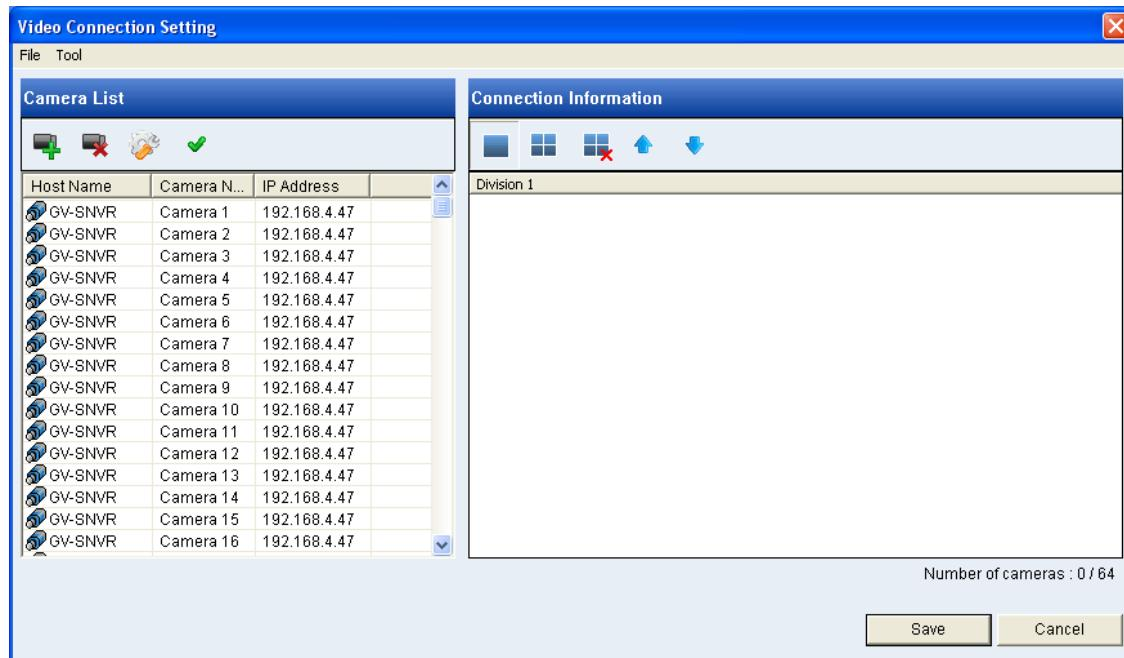

Figure 2-17
1. Click the **Add Camera** button  on the Video Connection Setting window (Figure 2-17). This dialog box appears.